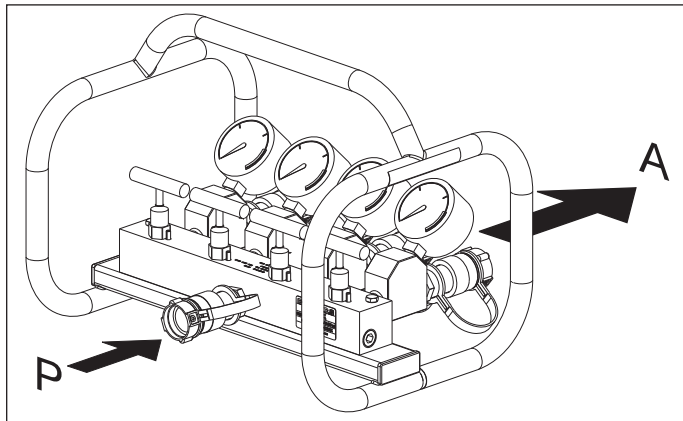

Figure 2, Connections Scheme for the AMGC41 Manifold
1. Connect the hydraulic pump pressure line to the inlet P. Refer to Figure 2